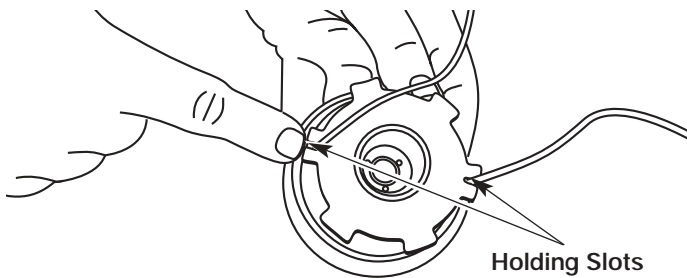

Fig. 58
12. Insert the ends of the line into the two holding slots (Fig. 58).